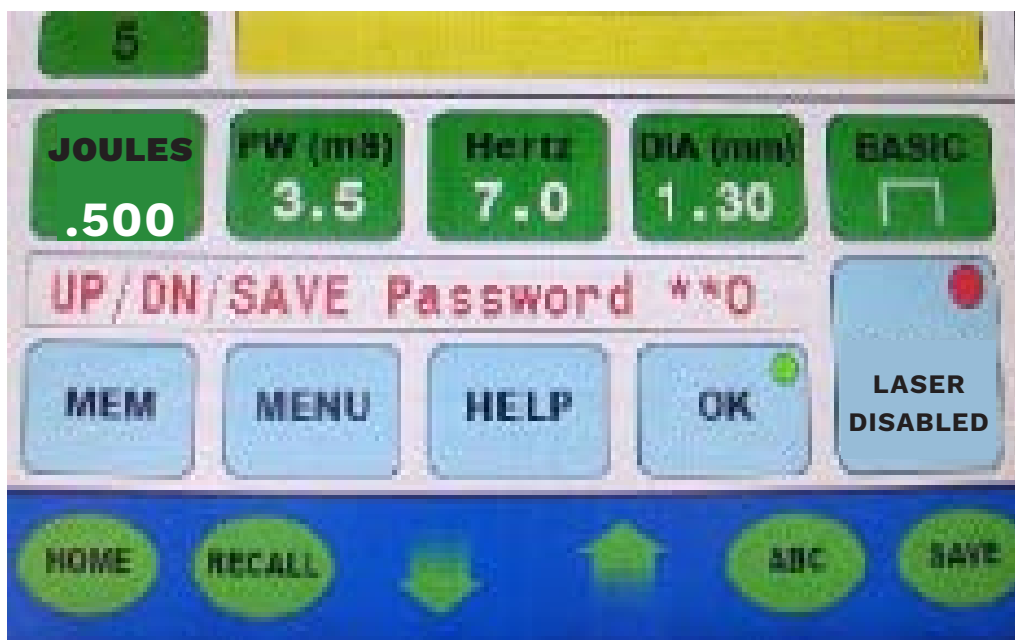

Figure 8
4. Press the **menu button** on the password screen; a (*) is inputted into the field for the second number. Now, press the **up arrow** to assign the third digit; the last digit, “8,” will begin blinking (**figure 8**).